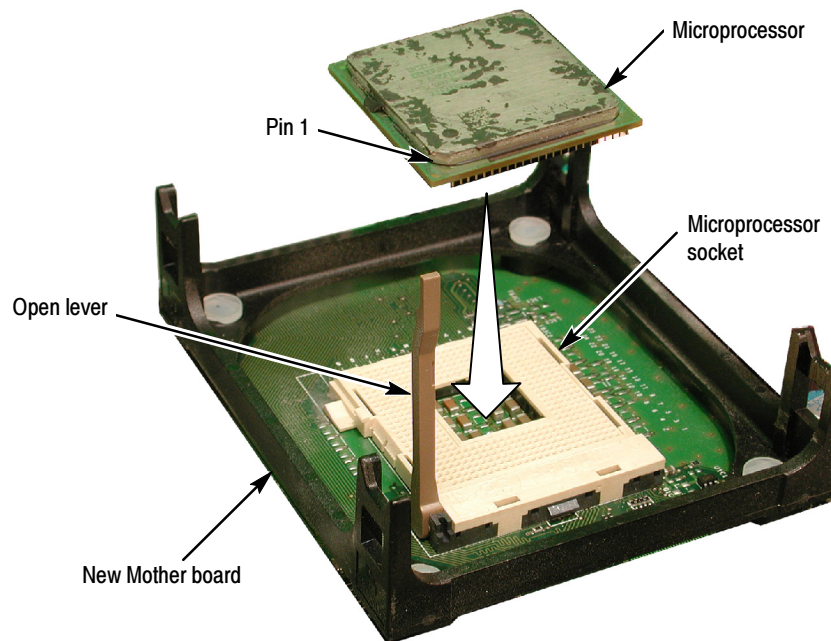

Figure 15: Installing the microprocessor
- f. Install the microprocessor in the socket on the new Mother board assembly. (See Figure 15).